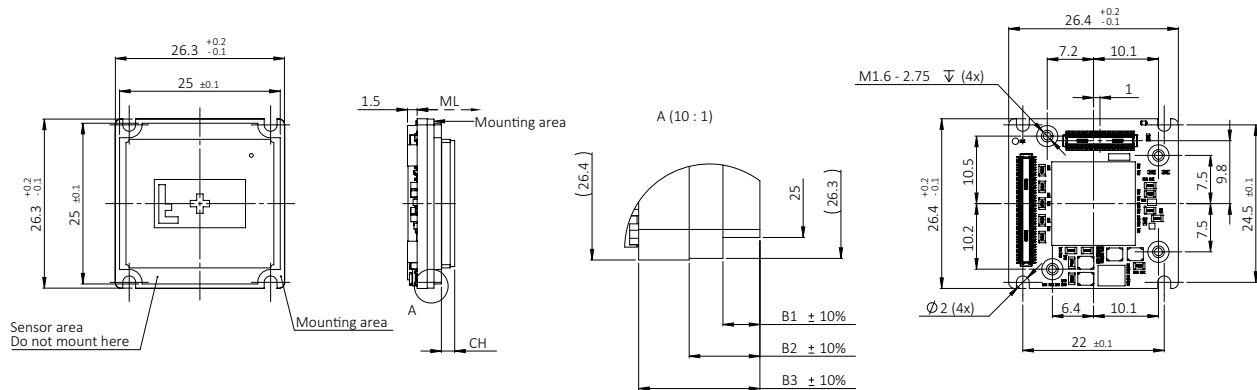

Figure 66: Bare Board (Alvium Flex) dimensions
Dimensions that are common between different models are shown in Figure 66, model specific dimensions are listed in Table 85. **Mechanical length (ML)** defines the mechanical distance from the mounting area to the lens mount front flange, without optical filter. **Components height (CH)** relates to the electronic components with maximum height, sometimes the sensor.